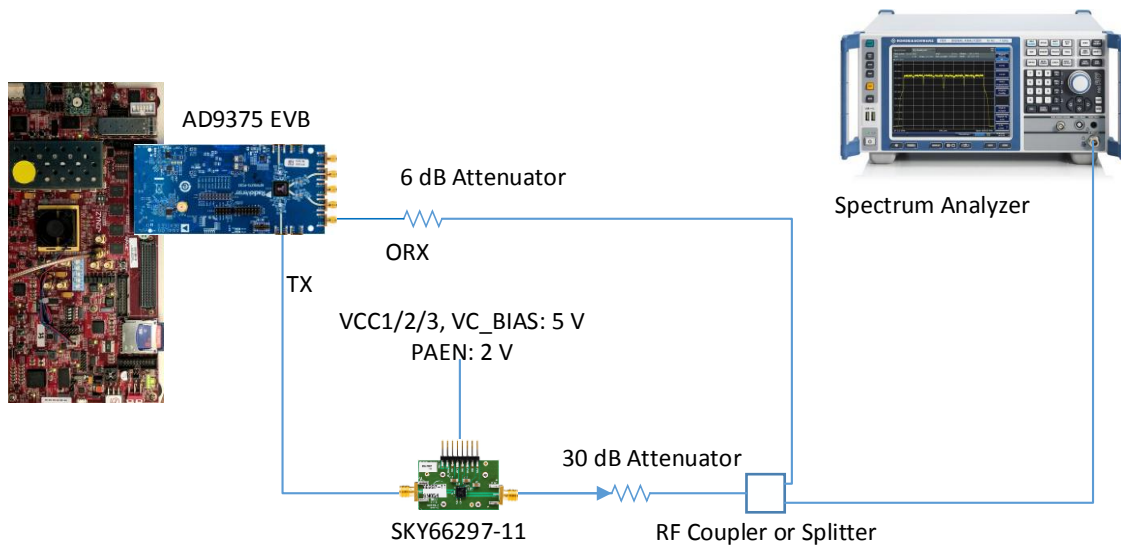

Figure 1. Hardware Setup
- SMA connectors and RF cables to interconnect various RF input and output ports as shown in Figure 1.
Figure 1 shows the external loopback hardware setup with a Skyworks PA. The ADRV9375-N/PCBZ FMC evaluation board must be connected to the High Pin Count (HPC) FMC connector J37 on the ZC-706 board.